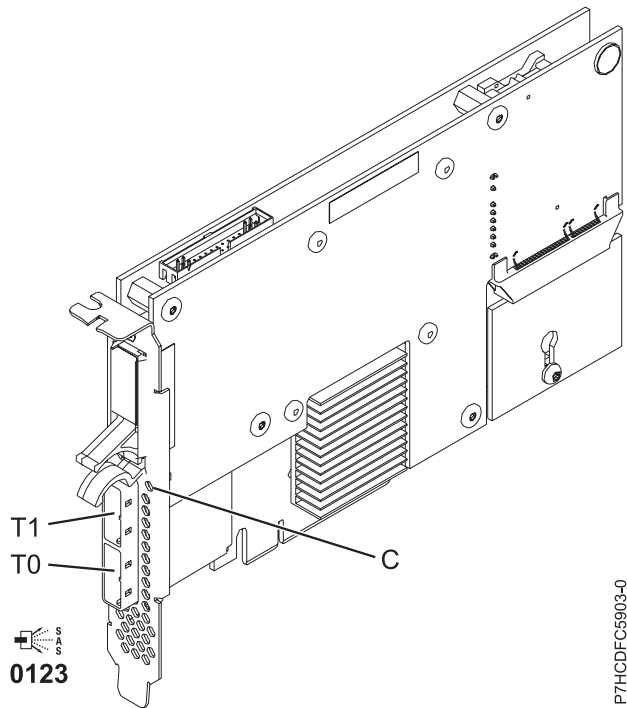

Figure 7. PCIe Dual - x4 3 Gb SAS RAID Adapter
The 5903 or 5805 contains a LED ((C) in Figure 7 on page 21) that flashes if the cache data is present. The cache-data present LED flashes when there is possible data in the cache on the adapter. If the cache data present LED is flashing, do not replace the cache battery pack. If replaced when the LED is flashing, the cache data is lost. See Figure 7 on page 21 to locate the cache-data present LED on this adapter.